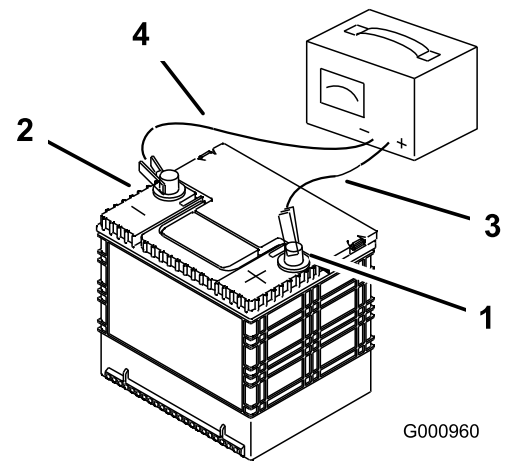

Figure 57
2. When the battery is fully charged, unplug the charger from the electrical outlet, then disconnect the charger leads from the battery posts (Figure 57).